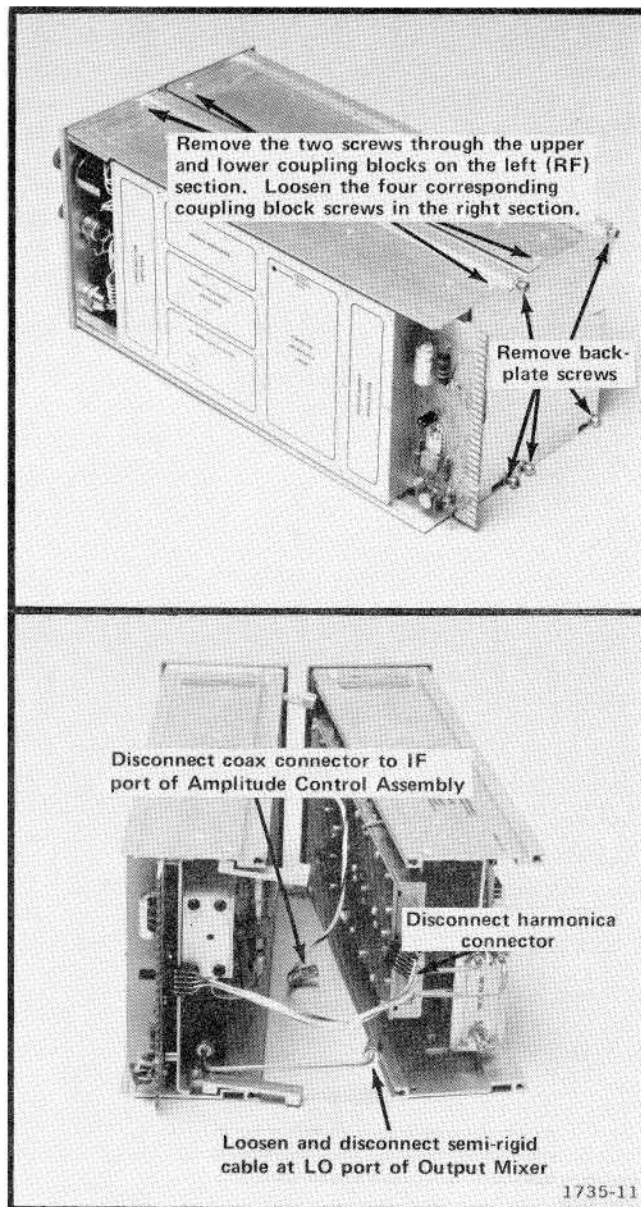

Fig. 6-6. Procedure for separating the two sections of the TR 502.
1. Separate the two sections of the instrument as shown in Fig. 6-6.